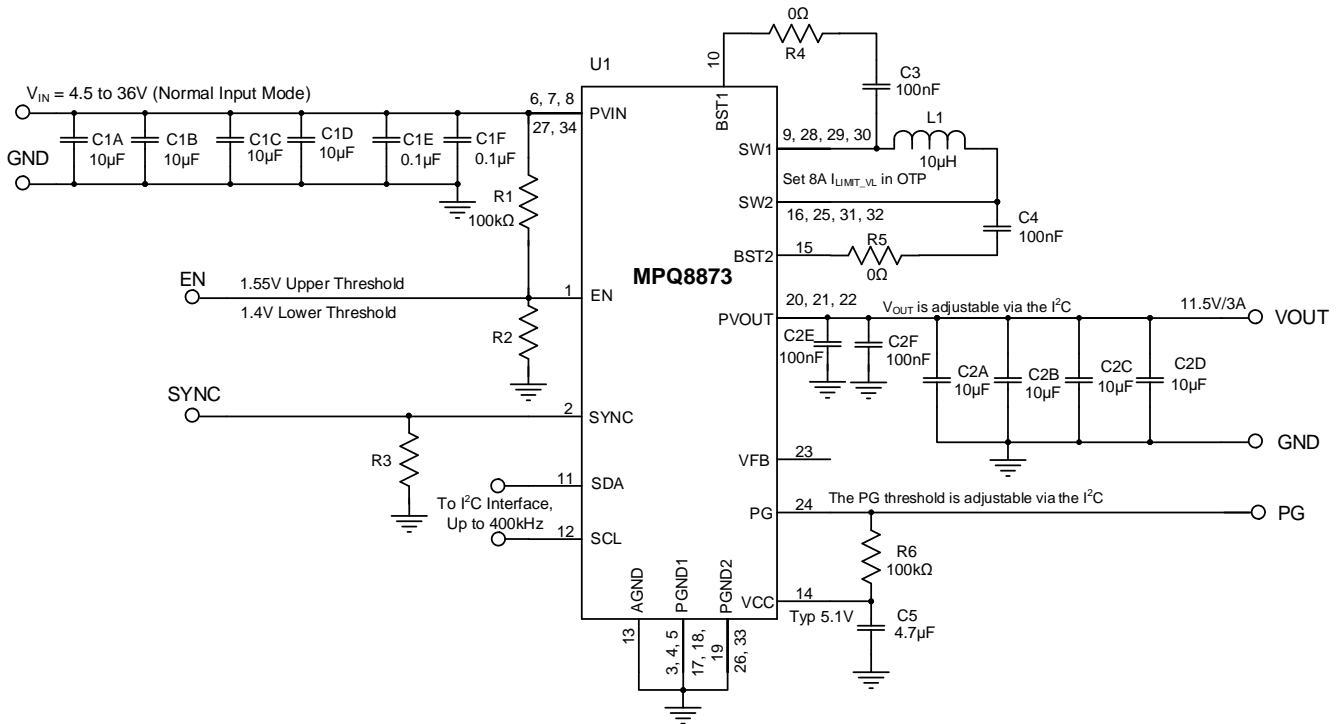

Figure 32: V_{OUT} = 11.5V, f_{sw} = 450kHz
12) The recommended PCB layout is based on Figure 32 on page 62.